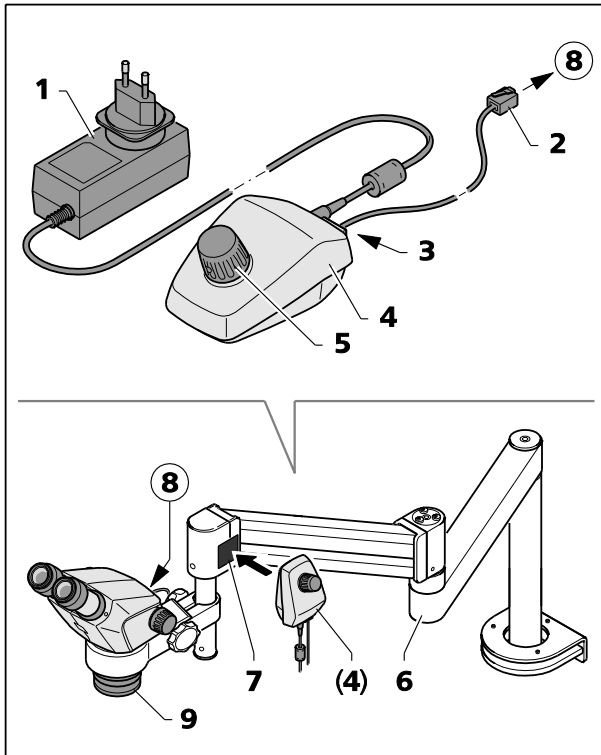

Fig. 24 Controller K LED
The controller K LED (Fig. 24/4) is used to operate the integrated vertical illuminator of Stemi 305 microscope body, the integrated camera of "Stemi 305 cam" or the ring illuminator K LED only, when stands without LED electronics are used (such as boom stands B or SDA, floor stand S, tilting arm stand U or desktop stands K, M and N).
- Screw-fasten front lens system 0.5x/185 mm (Fig. 24/9) to the microscope body.
- When using the ring illuminator, adapt the latter to the front lens system (Fig. 24/9) using the adapter supplied with the device (ID 58 mm, OD 66 mm).
- Secure the adhesive side of the magnetic plate (Fig. 24/7) to the swivel arm stand.
- Plug the connection cable supplied with the device (1 m long) (Fig. 24/2) into the socket (Fig. 24/8) on the microscope body or the ring illuminator and into the socket (Fig. 24/3) on the back of the Controller K LED (Fig. 24/4).
- Place Controller K LED (Fig. 24/4) next to the magnetic plate (Fig. 24/7).
- Connect Controller K LED to the power supply using the power unit (Fig. 24/1).
- Align swivel arm stand (Fig. 24/6) to enable an ergonomic working position.
- Turn the knob (Fig. 24/5) on the Controller K to switch the vertical illuminator (or the ring illuminator) ON and adjust illumination intensity by turning the knob.